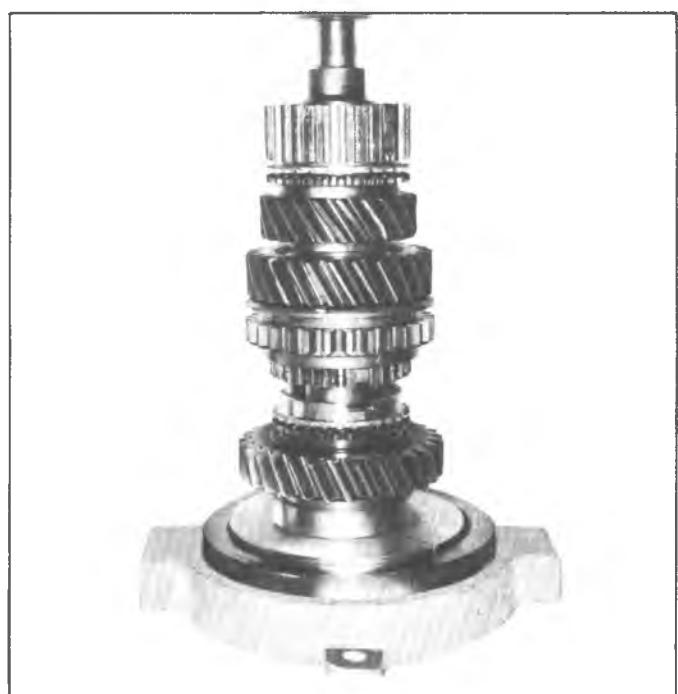

Fig. 17X--Installing Rear Bearing
13. Install rear ball bearing with snap ring slot downward; press onto mainshaft (fig. 17X).